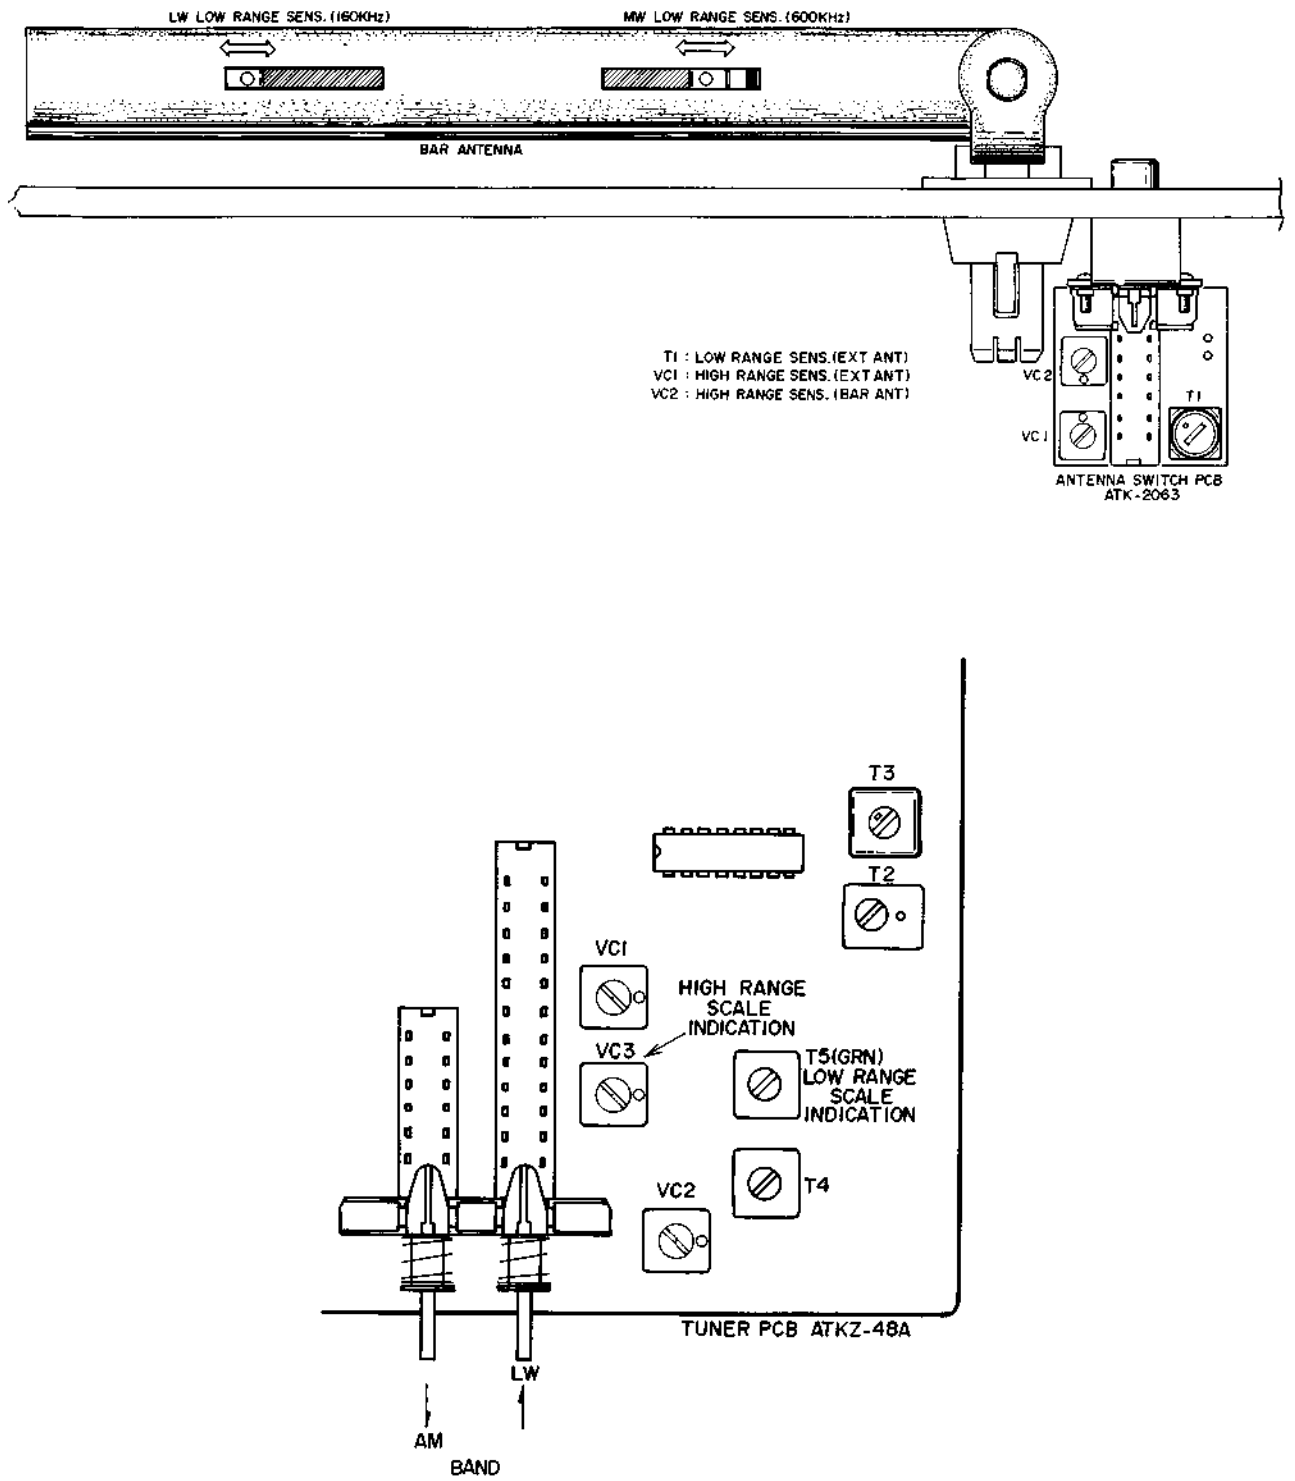

Fig. 6 Tuner P.C Board ATKZ-48A and Antenna Switch P.C Board ATK-2063 (Model AT-K33L)
3. LW SECTION ADJUSTMENTS (AT-K33L Only; Refer to Figs. 6, 9, 10)
Unless otherwise specified, use the adjustment points provided on the Tuner P.C Board (Fig. 6).